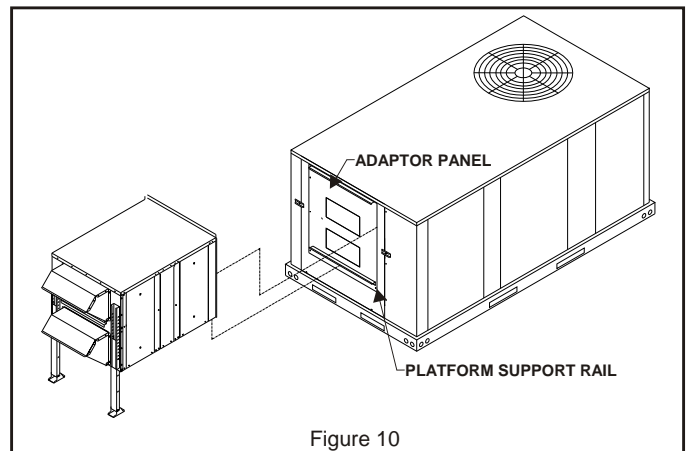

Figure 10
2. Install new adaptor panel over balancing damper and secure. **See Figure 10.**
3. Locate ERS support rail and install on the bottom of the return air opening of adaptor panel with flange pointing upward. **See Figure 10.**
7. Lower ERS onto ERS support rail catching the front edge of ERS bottom onto the 1/2" flange. Lift rear of ERS to rotate face against rooftop unit and secure with the existing rooftop unit screws and the providing 10-16 x 1/2" self-tapping screws. Tuck turned up flange on ERS top under top flange of rooftop unit. Secure into place. **See Figure 10.**